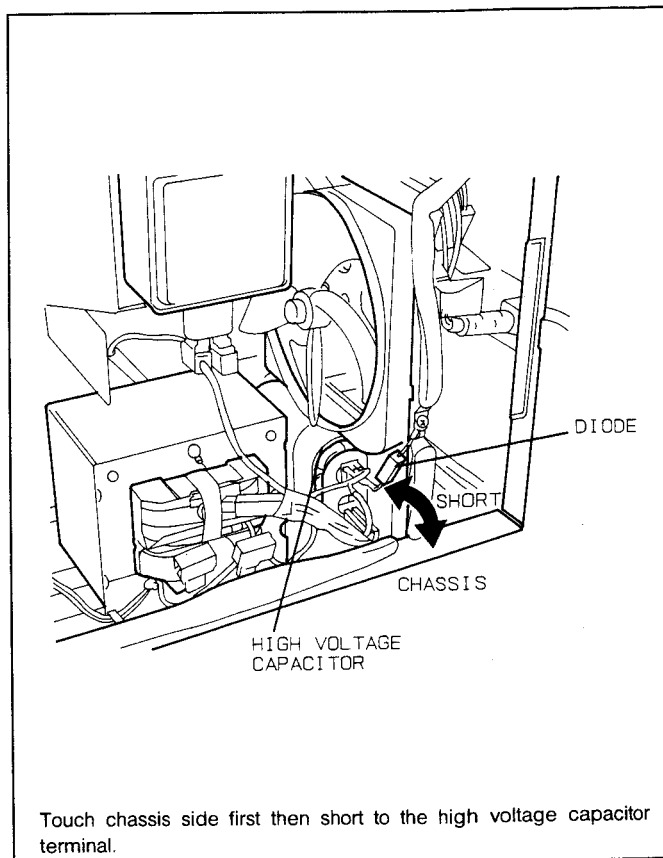

Fig. 15
2. Warning about the electric charge in the high voltage capacitor (Fig. 15)